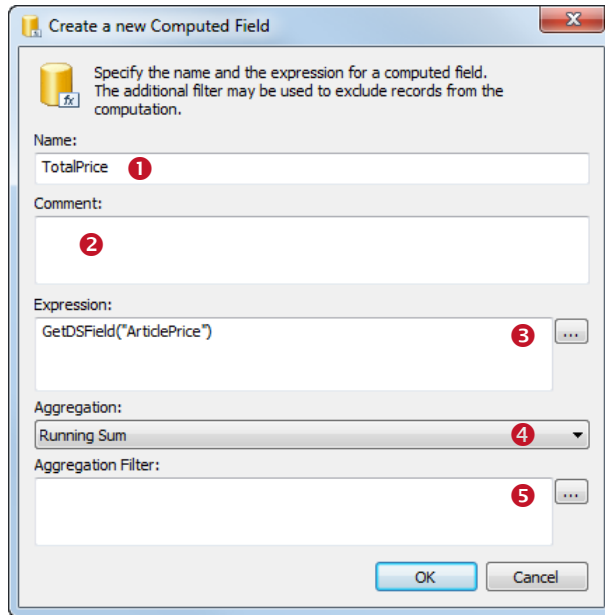

Figure 73: New Computed Field
For more advanced applications (like computing totals for the whole report) **TFORMer** supports aggregation functions. The following aggregation methods are available. You can choose from the drop-down list ④ (see Figure 73).